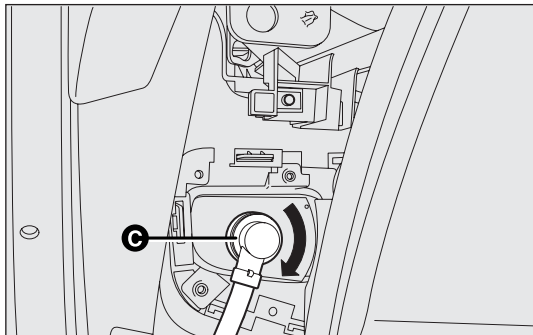

fig. 141
- ❑ remove the bulb holder cover C-fig. 141 by turning it anticlockwise;
- ❑ refit the bulb holder cover C-fig. 141 by turning it clockwise and locking it correctly;